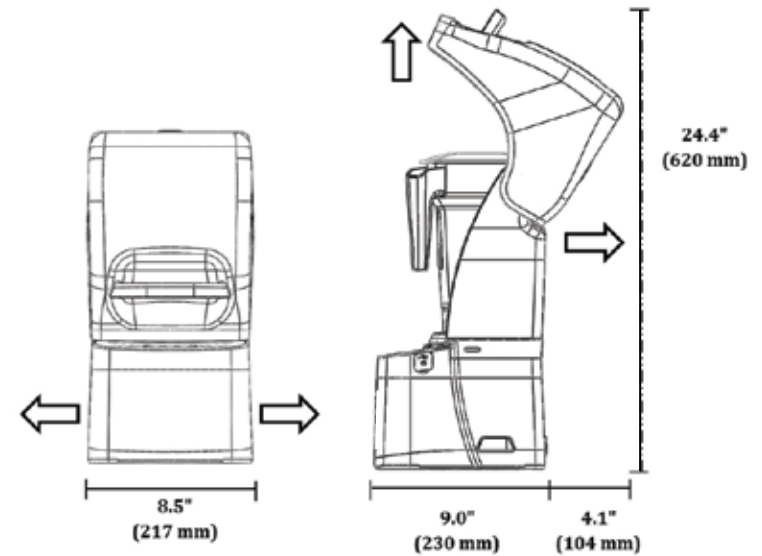

Figure 1. Stealth 875 Dimensions
- Ensure there is enough room above and around the unit to allow for unhampered movement of the sound enclosure (see Figure 1 for measurements).
*Note: You may locate your Blendtec Stealth 875 in the same space as your previous Blendtec in-counter blender. Just remember to ensure proper spacing for the sound enclosure (see Figure 1 for measurements).*
- Ensure the location meets all dimensional requirements (see Figures 1 and 3).